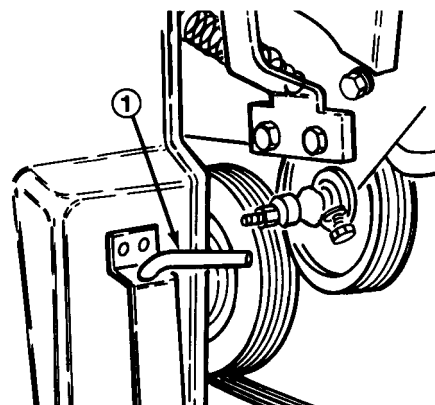

Figure 16
- B. Remove the override pin from the storage bracket on the front of the coring head cover (Fig. 16).
1. Remove override pin from storage bracket on front of coring head cover (Fig. 16).